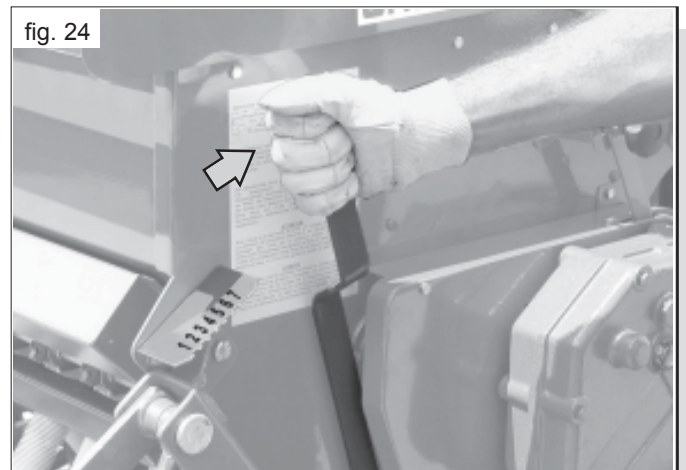

fig. 24
- for large quantities, it is advisable to use the crank on the gear shift to rotate the agitator shaft to better control seed flow into the bins. To empty small amounts of seeds, shift the doser lever beyond position 7 (Fig. 24).